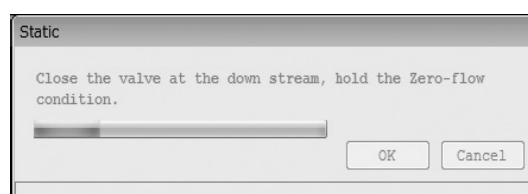

Fig.113
- ④ During the check, a progress bar will appear as shown in Fig. 113, allowing for the confirmation of the state of the check.